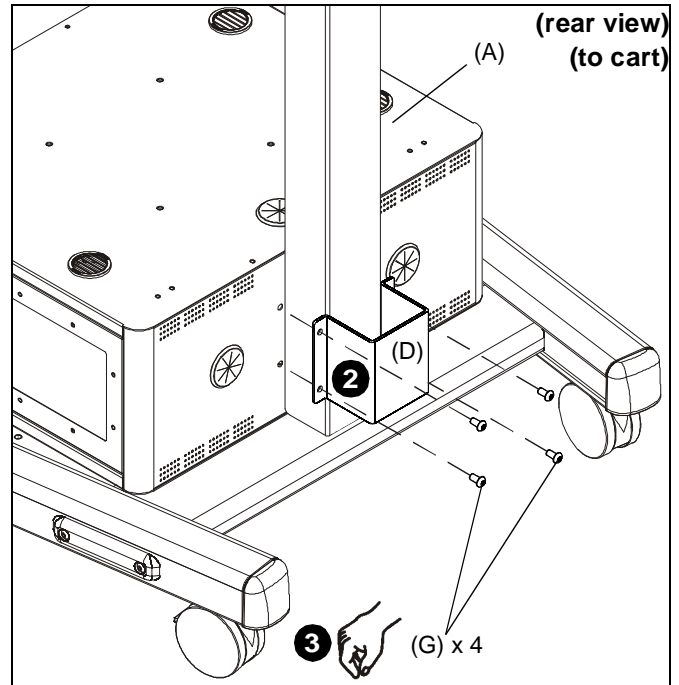

Figure 6
2. Place clamp bracket (D) around cart/stand and line up with holes on back of storage cabinet (A). (See Figure 6)
3. Insert four 5/16-18 x 5/8" button head cap screws (G) through clamp bracket holes and into holes on back of storage cabinet (A). (See Figure 6)
4. Open either door on accessory to install remaining four 5/16-18" hex nuts (J) onto four 5/16-18 x 5/8" button head cap screws (G) until accessory is fully secured to cart/stand. (See Figure 6)